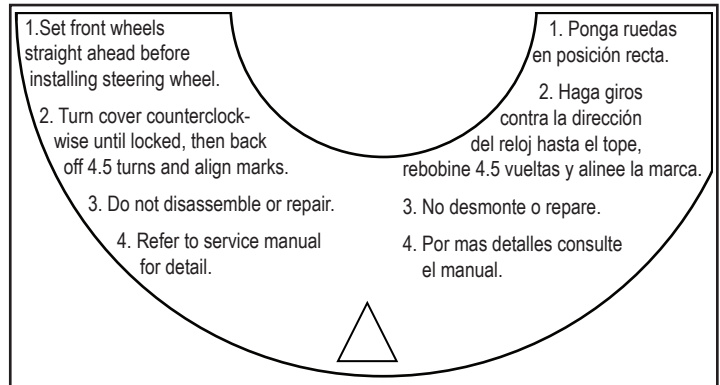
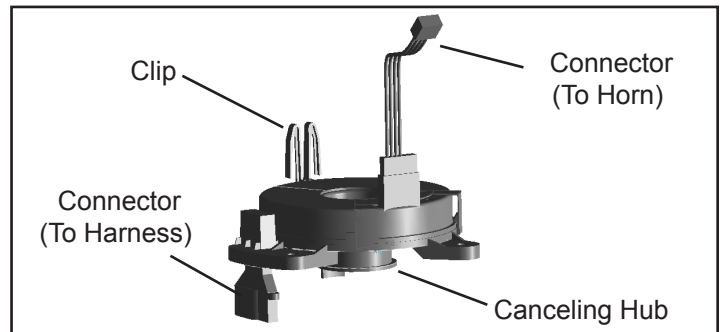

Figure 8 Clockspring Label
Figure 9 Clockspring (bottom view)
Clocksprings can be one of two types, either “canceling” or “non-canceling”. A “canceling” clockspring cancels, or turns off, the turn signal when the steering wheel is turned, whereas a “non-canceling” clockspring requires the driver to manually cancel the turn signal upon completion of the turn. The clockspring included in this kit is a “canceling” assembly but can be converted to a non-canceling assembly. To convert to a non-canceling assembly remove the canceling hub by gently pulling and rocking the hub to disengage the three locking tabs. Refer to Figure 9.
1. Select the appropriate clockspring screw (2). If the upper head material is aluminum, use the machine screw (2), otherwise use the plastite screw (2).
2. Inspect the new clockspring verifying the label marked **“DO NOT USE IF LABEL IS BROKEN”** is intact. If the label is broken, the clockspring must be centered before it can be placed into service. Follow the instructions on the front surface of the clockspring for resetting the assembly. Refer to Figure 8.
3. Align the three holes on the clockspring (1) with the column mounting holes. The clockspring holes will align in one direction only. Using the three clockspring screws (2) identified in Step 1, secure the clockspring and torque the screws to 15–35 in-lbs.
4. Connect the clockspring electrical connector on the bottom of the housing to the wire harness. Refer to Figure 9. An audible “click” ensures the connector is secure.